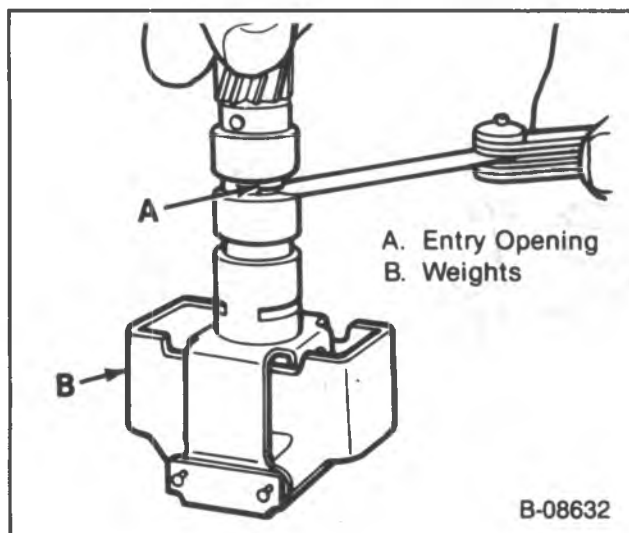

Figure 78 — Measuring the Governor Valve Entry Opening
- Valve entry opening. With the weights held all the way outward, the opening should be 5.1 mm (0.020 in.) (Figure 78).